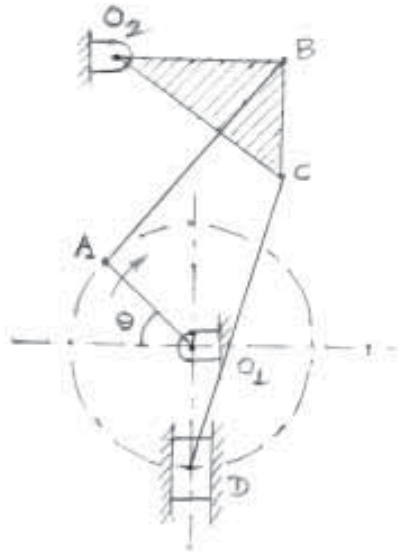

Fig.1 [For Q.3(b) and Q.4(b)]
- b) For the mechanism shown in Fig.1, in which crank rotates in clockwise direction at 400 rpm. By using instantaneous centre of rotation method, calculate velocity of needle, which is on slider D and angular velocity of link O_2BC .